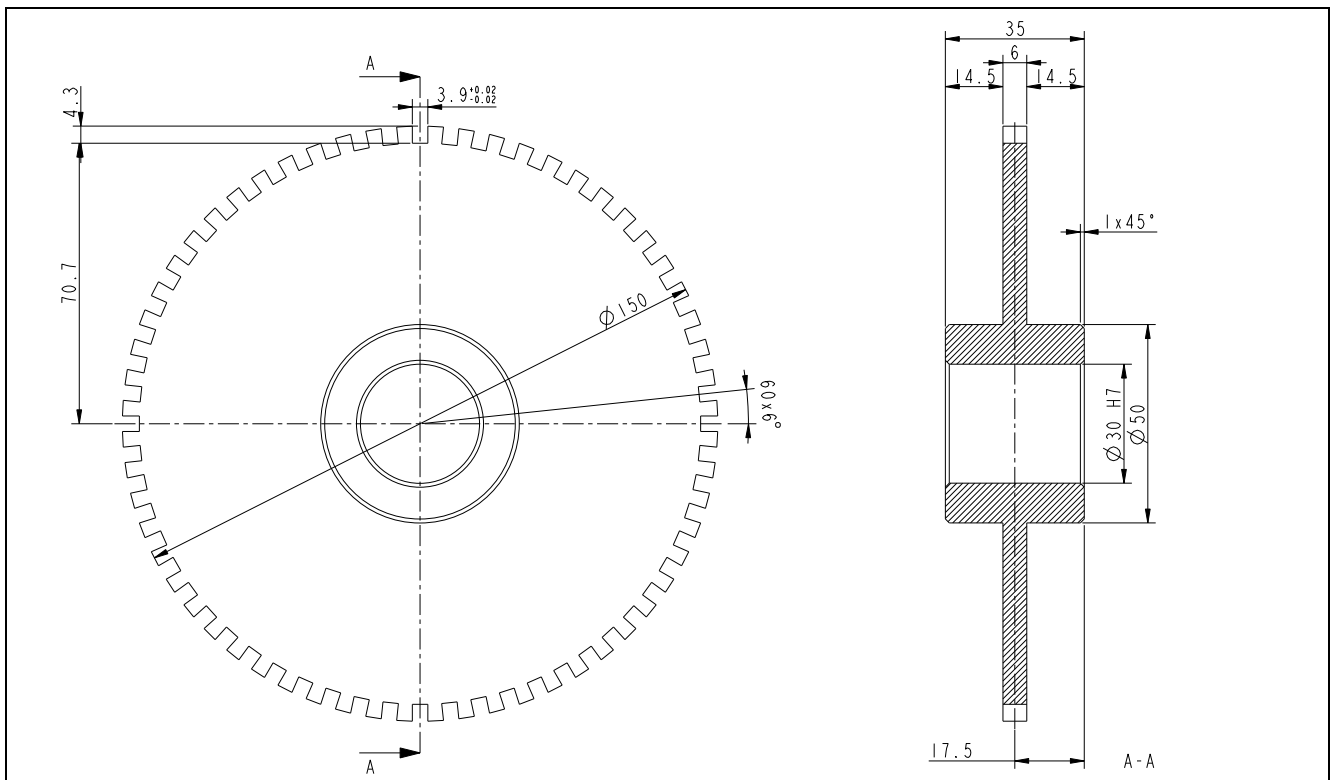

Figure 2-2 Infineon reference toothed wheel: dimension in mm
- 2) Measured from surface of package to toothed wheel, explained in Figure 2-2.